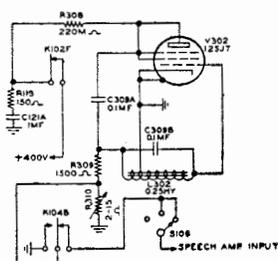

Fig. 19 MCW Oscillator Circuit
2.7.5.1. The MCW audio tone oscillator, Figure 19, utilizes a Type 12SJ7, V302, triple grid tube connected as a triode. The oscillator is in operation whenever the carrier control relay, K102, is operated. Relay contacts K102F apply voltage to the plate and screen of V302 when K102 is operated. The audio frequency of the output of the tone oscillator is fixed. The voltage developed across resistor R310 is coupled to the input of the speech amplifier through relay contacts